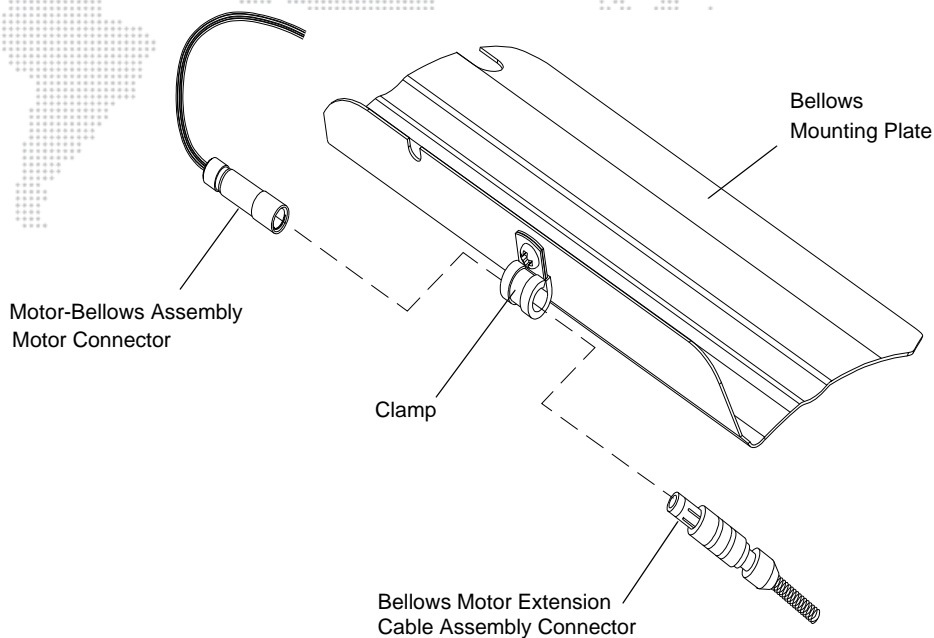

Figure 2-7: Disconnecting Bellows Motor Extension Cable
Step 4. At bellows mounting plate, disconnect bellows motor extension cable assembly connector from motor-bellow assembly motor connector. Remove both connectors from clamp. **Figure 2-7.**